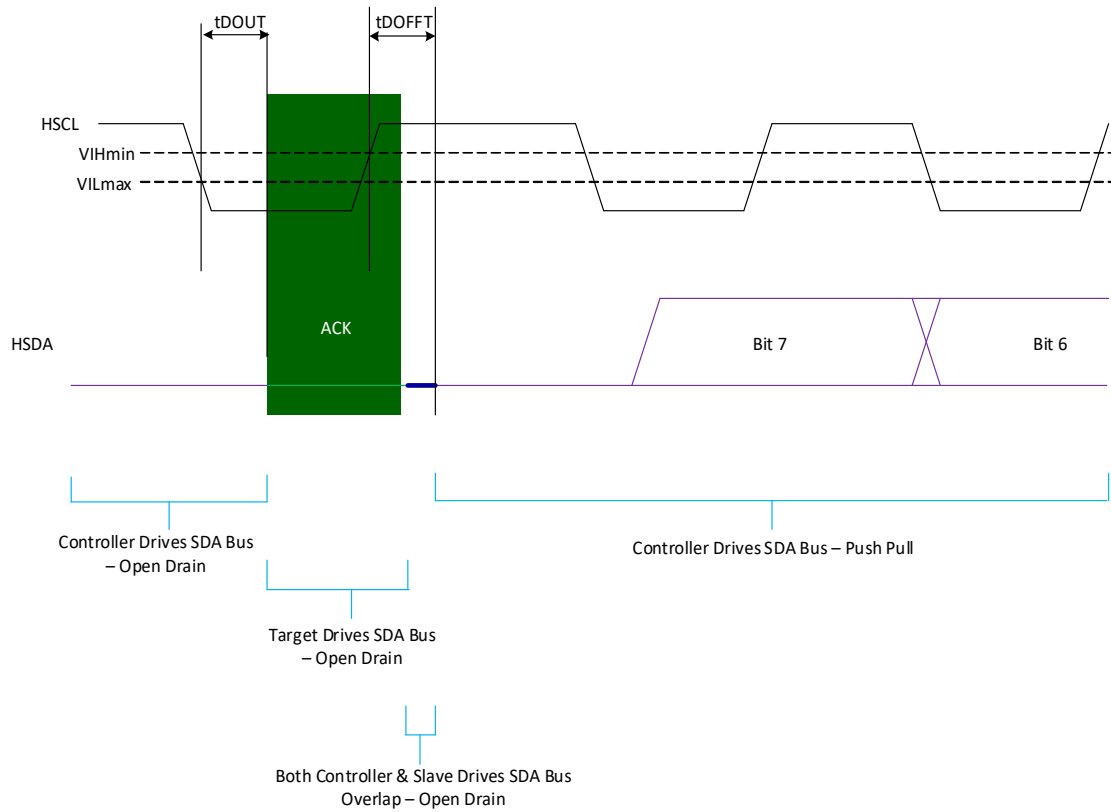
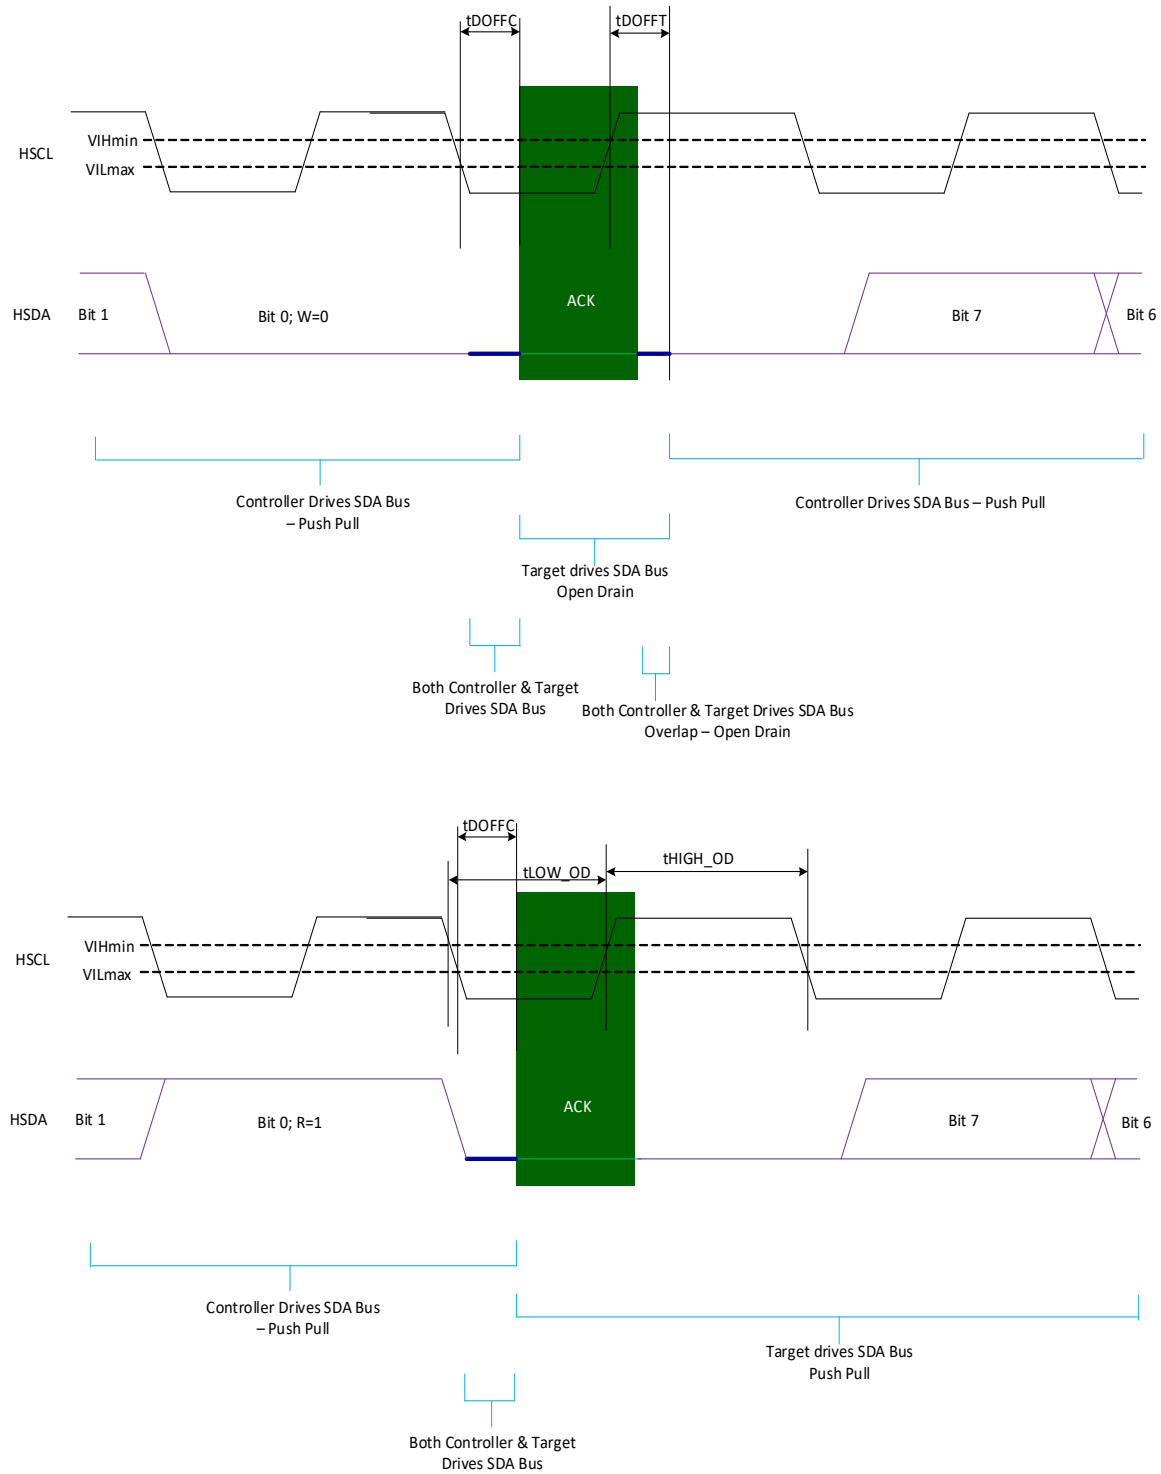

Figure 22 — Target Open Drain to Controller Push Pull Hand Off Operation
Figure 24 — Controller Push Pull to Target Open Drain Hand Off Operation
- NOTE 1 See Figure 22 to see how the transition occurs from Target Open Drain (ACK) to Host Push Pull Operation (Repeat Start).
- NOTE 3 See Figure 24 to see how the transition occurs from Host Push Pull Operation to Target Open Drain (ACK) and See Figure 22 to see how the transition occurs from Target Open Drain (ACK) to Host Push Pull Operation (1st bit of Address bit 7).
- NOTE 5 See Figure 24 to see how the transition occurs from Host Push Pull Operation to Target Open Drain (ACK).
NOTE 1 See Figure 22 to see how the transition occurs from Target Open Drain (ACK) to Host Push Pull operation (Repeat Start).
NOTE 4 See Figure 24 to see how the transition occurs from Host Push Pull Operation to Target Open Drain (ACK) and Figure 22 to see how the transition occurs from Target Open Drain (ACK) to Host Push Pull operation (Address bit 7).
NOTE 5 See Figure 24 to see how the transition occurs from Host Push Pull Operation to Target Open Drain (ACK).
- NOTE 3 See Figure 24 to see how the transition occurs from Host Push Pull Operation to Target Open Drain (ACK).